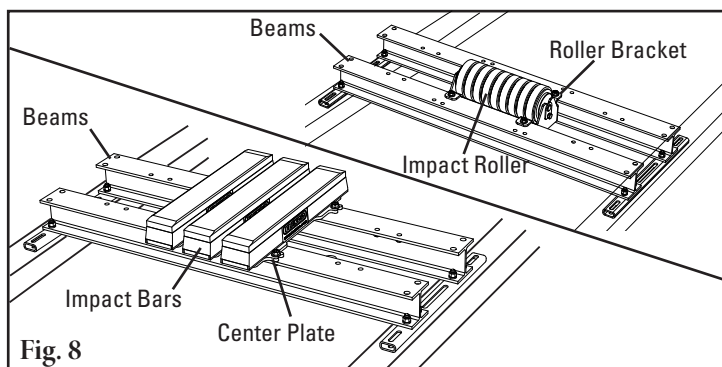

Fig. 8
8. **Reinstall center module.** Bolt roller brackets or center plate to the beams (Fig. 8). If the roller or impact bars were removed at any point during installation, reinstall now.